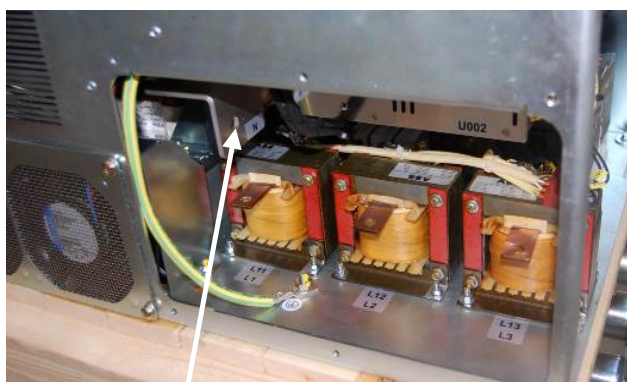

Figure 29: Connection of the neutral cable when using the PQFS in 4-wire mode
6. Connect the three power cables and the neutral cable. Whereas the three power cables can be connected as describes in item 6 of Section 6.8.1, the neutral cable has to be connected to the neutral connection point (Cf. Figure 29).